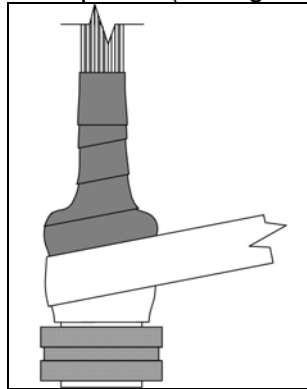

Figure 4
- 3.5.3 After the first full wrap is complete, continue wrapping with a 50% overlap over the top of the StretchSeal Tape. Use the line in the middle of Self-Fusing Silicone Tape as a guide and remove the release film as required. (see figure 4)